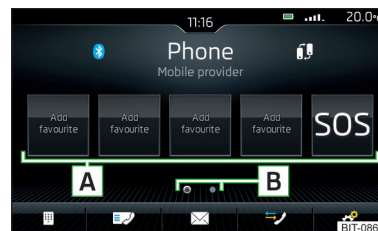

Fig. 155
- ▶ In the main menu *Telephone*, **tap on** the desired function surface **A** » Fig. 155.
- ▶ To the **change Storage Group** tap on the functional surface **B** » Fig. 155.
- ▶ To **choose** tap on the assigned function area **A** » Fig. 155.
- ▶ In the main *Telephone* menu, **press and hold** the desired function surface **A** » Fig. 155.